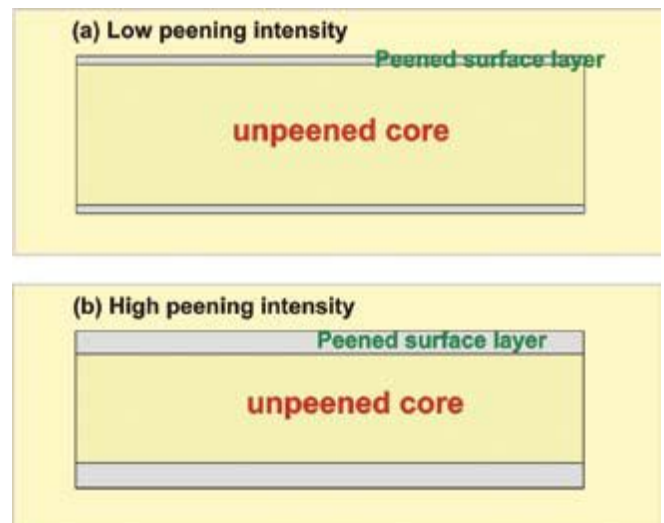
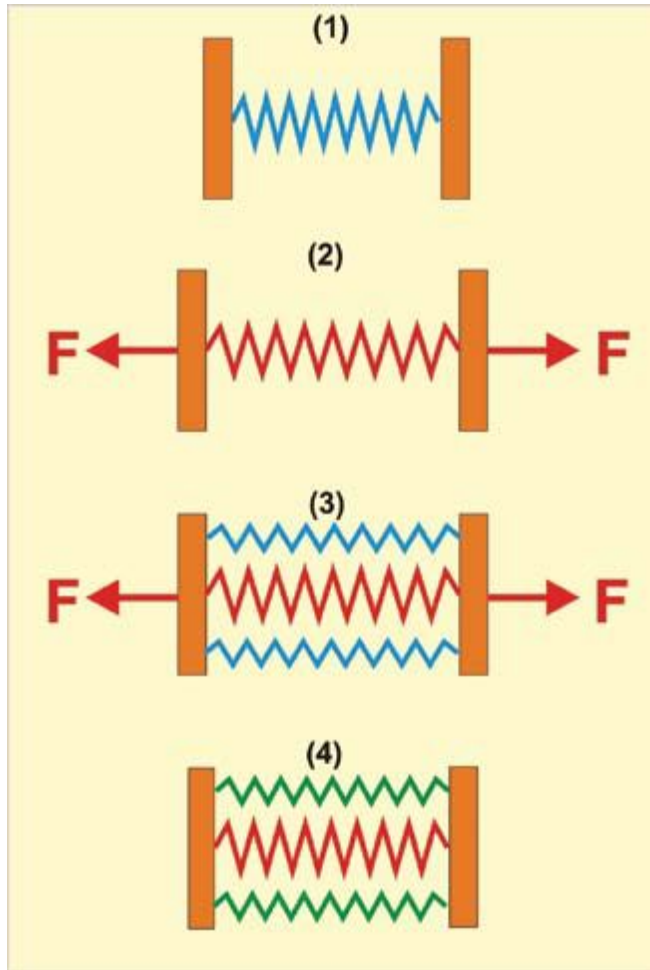

Fig.2. Low and high peening intensities producing thin and thick surface layers respectively.
Fig.3. Sequence leading to the spring model of a residual stress system.
Fig. 2. The result of three analyses of the abrasive blasting agent Chronital S10 using the HAVER CPA 2-1. The throughput distribution (Q3[V-%]) clearly shows that the main part of the abrasive blasting media is made up of particles with a size between 90 and 200 µm. Also for very narrow distribution ranges, the smallest differences and deviations are clearly shown by the various depiction possibilities that are offered by the HAVER CpaServ.
precision and reproducibility of results is excellent for this dynamic image analysis. Also, the speed at which the HAVER CPA analyses large abrasive blasting materials is impressive due to its wide channel and high-resolution camera. HAVER CPA technology enables all particles to be measured and evaluated in real time. Even the finest differences are measurable. The HAVER CpaServ software performs the check and assessment of the shape and size using a variety of possible size and shape definitions (Figs. 2 and 3). The results provided by the HAVER CPA unit contribute to optimising production control. Whilst the S10 particle size can be regulated by the application of pressure during spraying in the production process, granulation and circularity are highly dependent on the melting process. Over the option of the particle list, the results of the abrasive blasting media analysis and a graphic display of each article can be carried out, checked over, and proven.
Fig. 3. The result of three samples of the abrasive blasting agent Chronital S10 using the HAVER CPA 2-1. The residue distribution (1-Q3[V-%]) clearly shows that with good samples (yellow and orange) over 95% of the abrasive blasting media is made up of particles with a circularity of over 0.86. The deviation clearly shown here cannot be detected using a manual optical check.
Fig.2 illustrates the effect of applying low and high peening intensities to a given component’s surface. Low peening intensities are normally produced when using relatively-small shot particles and high peening intensities by using relatively-large shot particles. Shot velocity and density have an effect regardless of shot size—higher velocity and
Imagine that (1) in fig.3 represents a spring attached to two handles. The spring is colored blue to indicate that it is not being stressed. This corresponds to a “zero stress system”. Now imagine that a “Strong Man of the Circus” exerts a very large tensile force, F , by pulling on the handles—(2) in fig.2. The central spring stretches and the spring is colored red to indicate that it is now in tension. We now have an “applied stress system” because an applied force is responsible for the stress. Imagine next that the Strong Man’s assistants slot two green springs on either side of the stretched central spring. These
two springs are of the same length as for the stretched-apart handles and are therefore not stressed—hence colored blue as in (3) of fig.2. We still have an “applied stress system”. Finally, imagine that the Strong Man stops exerting the force, F , so that the handles move towards one another. As they do so the two outer springs become compressed—colored green. A stable position is reached when the sum of the compressive forces on the outer springs is equal to the remaining tensile force on the central spring—colored red. For any stable system the universal law that “For every force there must be an equal and opposite force” applies. We now have a “residual stress system” because no external force is involved.